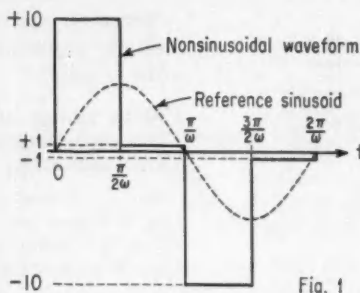

Fig. 1
However, in the interest of accuracy I wish to question the use of a switching demodulator as a phase detector. While this is valid for sinusoidal waves, it can introduce errors of up to 90 deg for nonsinusoidal functions. The example given in Figure 1 would
1. Set up the scale switch so that the demodulator is saturated by 2:1 exactly, as shown in Figure 1.